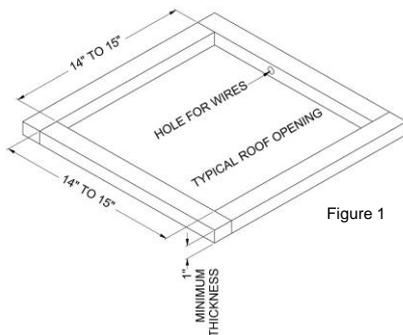

Figure 1
- c. Examine the roof opening. If the opening is smaller than 14 x 14, the opening must be enlarged. If the opening exceeds 15" x 15", a mounting frame must be field fabricated to reduce the opening size (See Figure 1).
2. If a roof vent opening is not used, a new opening (See Figure 1) will have to be cut into the vehicle roof. A matching opening will also have to be cut into the interior vehicle ceiling. If the ceiling opening is carpeted, snagging could occur. After the opening in the roof and interior ceiling are the correct size, a framed support structure must be provided between the exterior roof top and the interior ceiling. The reinforced frame structure must provide the following:
Airxcel, Inc. requires that the spacing from the vehicle roof top to the interior ceiling be no less than 1". A typical support frame is shown in Figure 1.